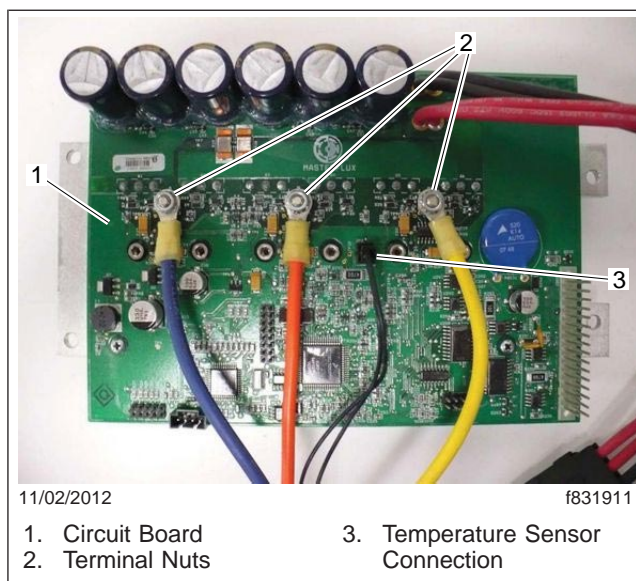

Fig. 1, Circuit Board Wiring
- 2.1 Connect the three phase-wires to the new circuit board terminals as shown in Fig. 1. Install the blue wire on the left terminal, the orange wire on the middle terminal, and the yellow wire on the right terminal. Tighten the nuts 10 lbf-in (113 N-cm).